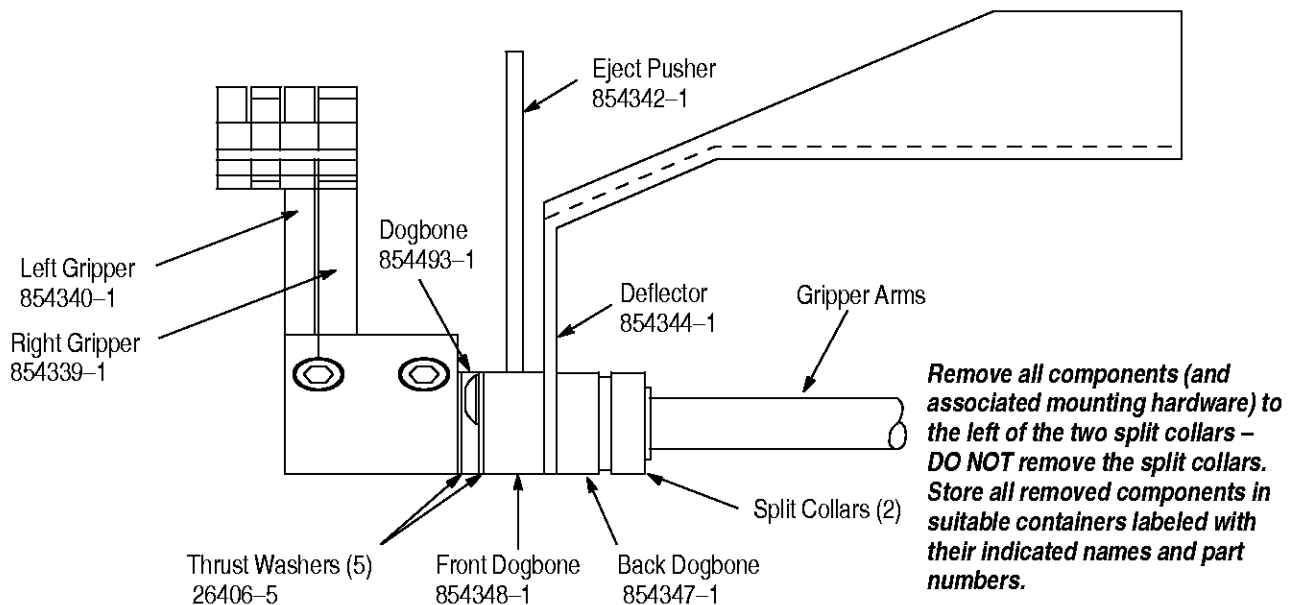

Figure 2
1. Refer to Figure 2, which shows the existing components that are mounted on the gripper arms of the eject transfer assembly, and carefully remove all components (and associated mounting hardware) to the left of the two split collars. **DO NOT** remove the split collars.